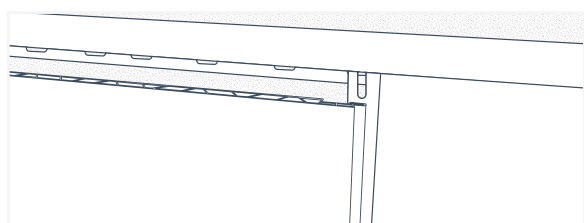
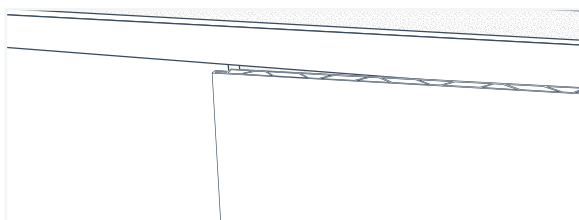

Fig. 47
Fig. 48
9. Insert the tongue end of the replacement panel in first, using a putty knife to pry open any adjacent trims if needed (Fig.47). Then, simply place the groove end of the replacement panel on top of the tongue (with the bead of silicone) of the adjacent panel (Fig. 48).